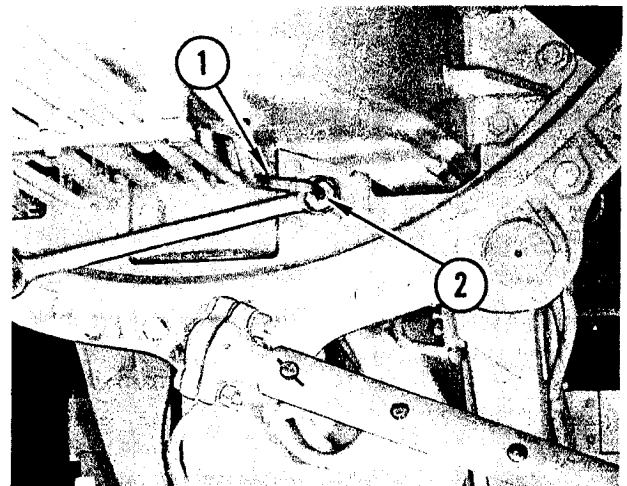

FIGURE 30. SETTING THRUST SETSCREW
3. Install thrust adjusting setscrew. Using an Allen wrench (1), tighten adjusting screw (2) as tight as possible using only the Allen wrench, then back off 1/16 of a turn. Tighten locknut to a torque of 250 ft. lbs. See Figure 30.